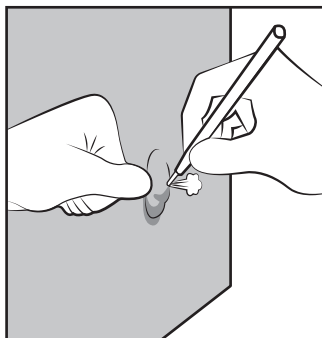

FIGURE 9
3. Press out the entrapped air by moving your thumb toward the puncture. See FIGURE 9.